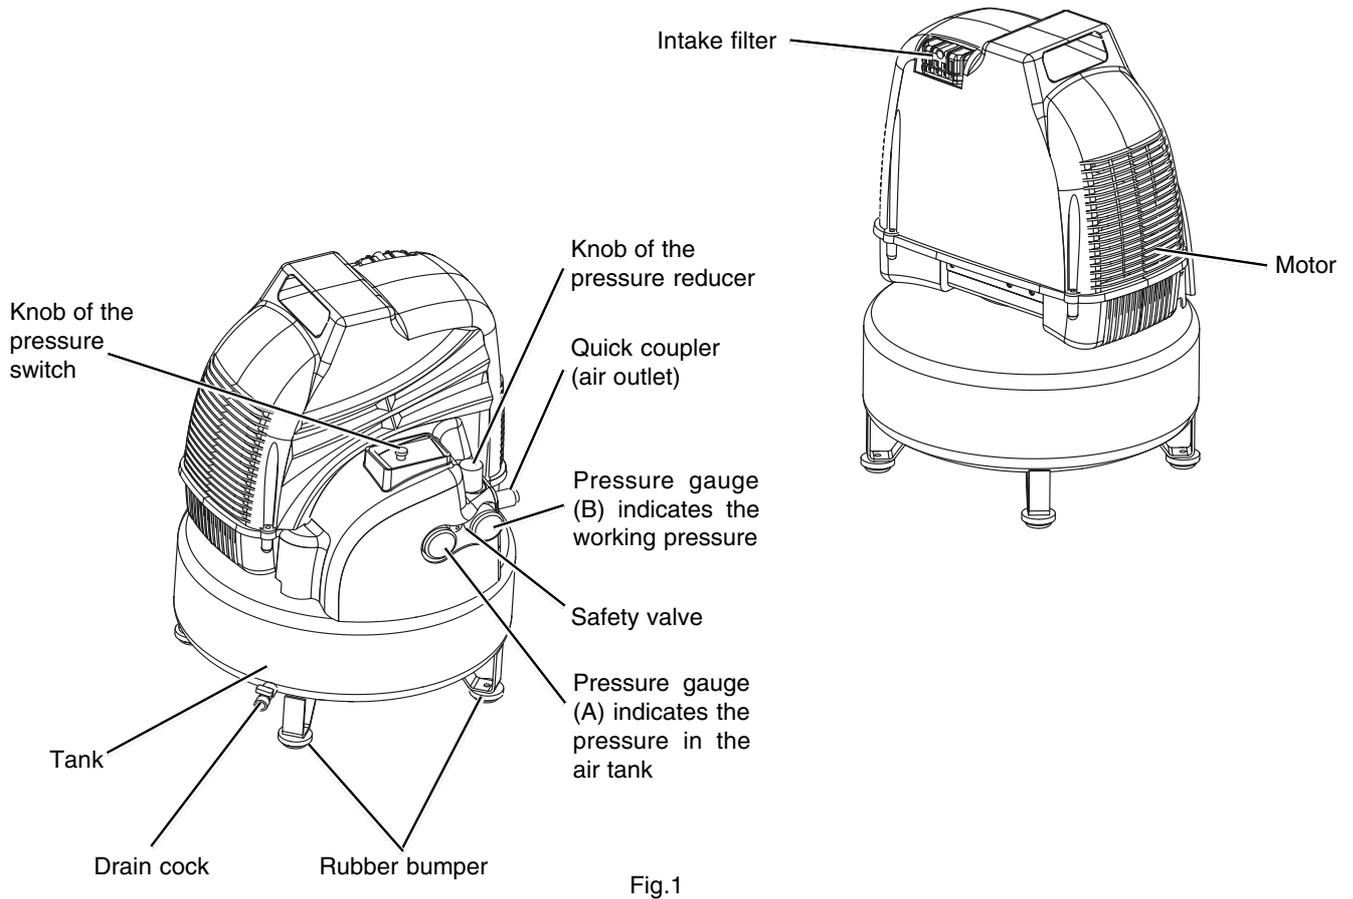

Fig.1
**NOTE:** When operating or storing the compressor, set 4 rubber bumpers downward on the floor (Refer to Fig.1)
- (1) Push the knob of the pressure switch to "OFF" (Refer to Fig. 1 and Fig. 2).
- (2) Unplug the plug from power source.
Remove the intake filter (Refer to Fig. 1) every 50 hours or once a week and clean the inside of the intake filter and the filter element with compressed air (Fig. 5). Use a phillips screwdriver to disassemble intake filter.